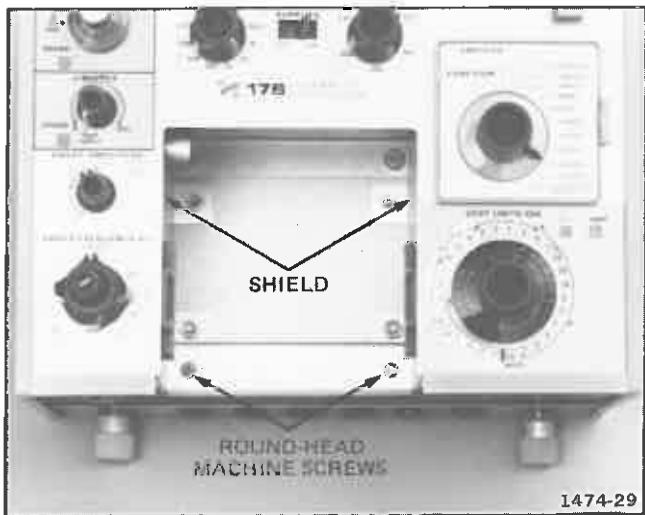

Fig. 4-3. Top view of the 178 showing storage-compartment shields.
c. Remove the two pan-head machine screws from inside the storage compartment (see Fig. 4-3).
d. Remove the two shields that form the side of the storage compartment. See Fig. 4-3. (The front shield held in place with two hex nuts, Fig. 4-3, need not be removed).